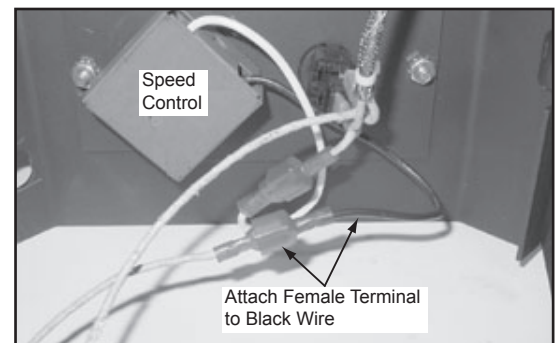

Figure 22.4
7. Attach the female spade terminal to the black wire that comes out of the speed control (**Figure 22.4**).